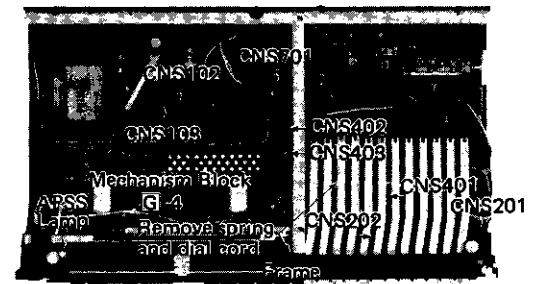
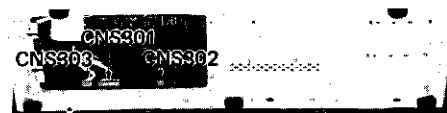

Figure 5-3
Figure 5-4
2. Pull out seven sockets (CNS102, CNS103, CNS201, CNS202, CNS401, CNS402, CNS403 and CNS701) and APSS lamp (PL401) shown in Fig. 5-3, and three sockets (CNS301, CNS302 and CNS303) shown in Fig. 5-4.
4. Remove the dial cord and record/playback switch interlocking spring. See Fig. 5-3.